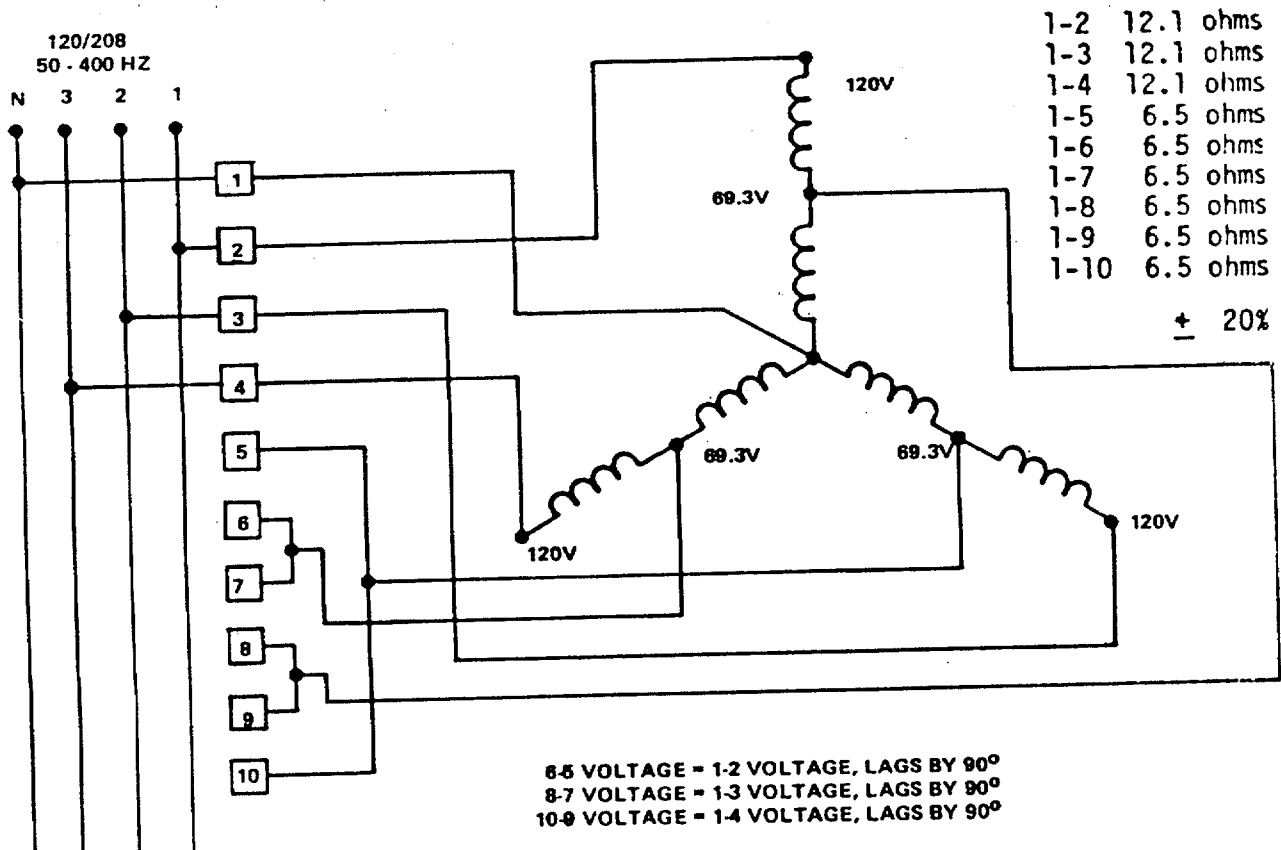

Figure 5-5. Transformer T103, Schematic
- (1) Refer to figure 5-5 and apply 120V AC between terminals 1 and 2. Use a voltmeter to check for indicated voltages (within 3 percent) at test points shown.
- (2) Repeat procedure with inputs at terminals 1 and 3, and at terminals 1 and 4.
- (3) If transformer T103 fails to provide any of the indicated voltages, it is defective and must be replaced.